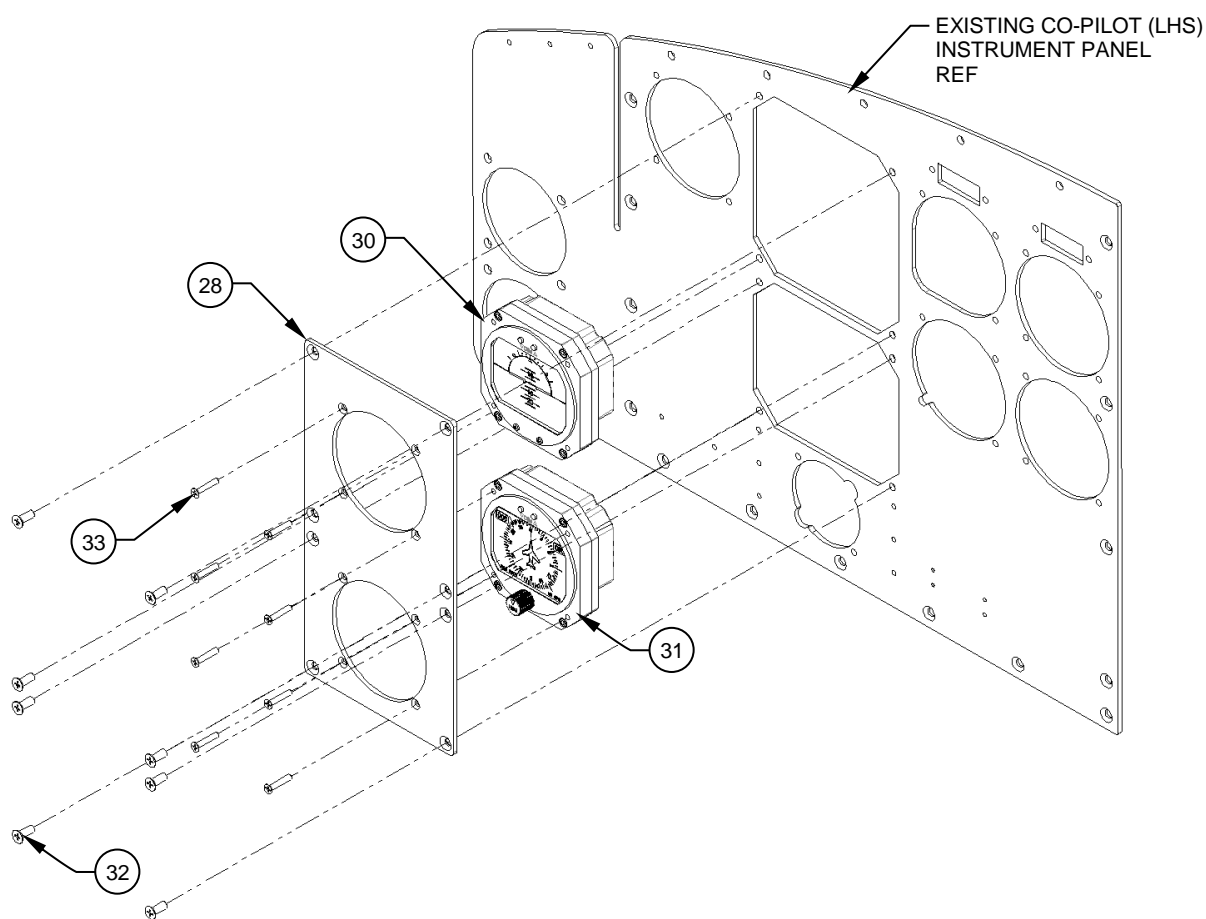
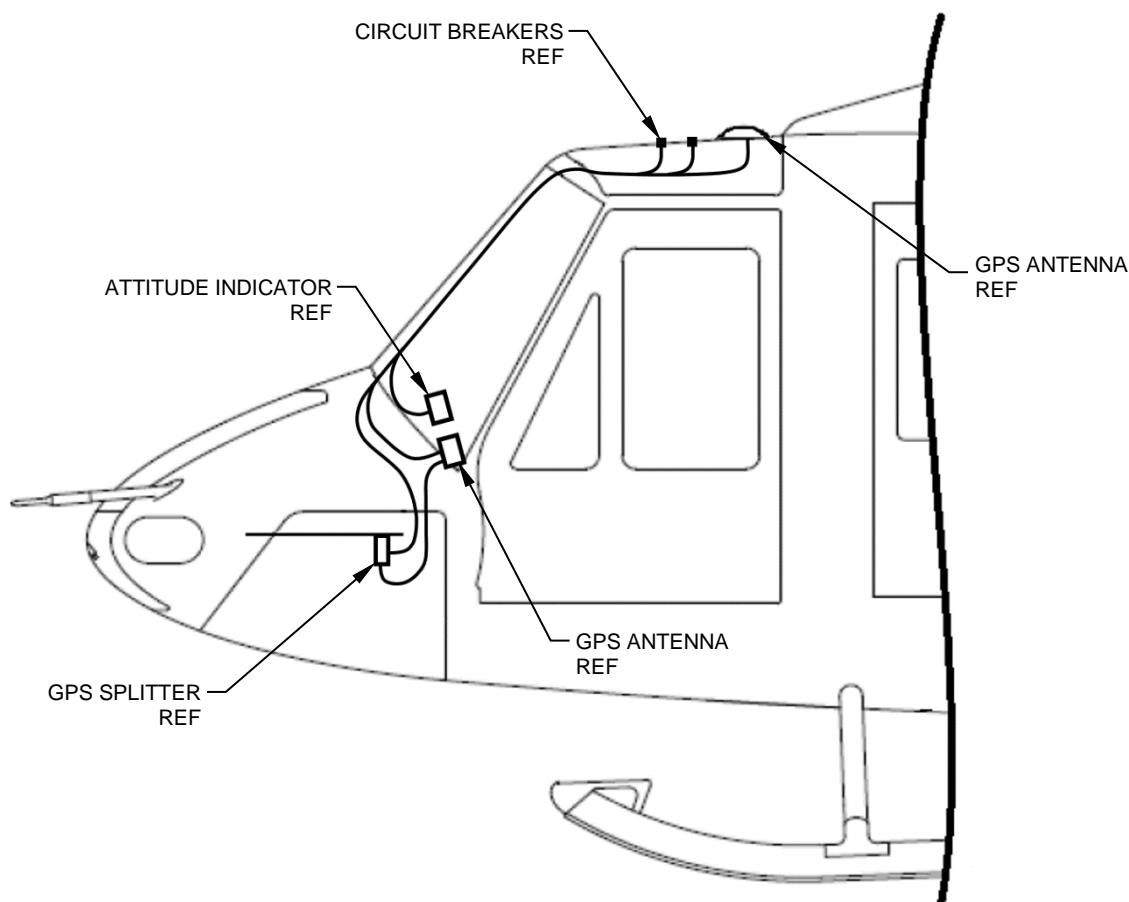

**Figure 5**
**Figure 8**
8. Install the Stud, Adhesive Mounted (Item 23) in the locations shown. Reference Figure 5. Installation of the studs shall be performed as per the instructions detailed in Appendix A. The position shown is the preferred location however, deviation is permitted to accommodate individual aircraft configurations. Recalculate weight and balance accordingly.
9. Install the Splitter, Assy (Item 3) with the supplied fasteners as shown. Reference Figure 5.
13. Install the Coax Cable, Assy (Item 48) by fastening the Coax Cable, Assy to the back of the pilot (RHS) Heading indicator (Item 31) and route the cable as shown. Reference Figures 8, 9 & 10 and Appendix B. Fasten the opposite end of the coax cable to the “OUT 2” port of Splitter (Item 5) Reference Figure 5. If not installing on the LHS as well, connect the coax cable to the “OUT 1” port.
14. Install the Coax Cable, Assy (Item 37) by fastening the Coax Cable, Assy to the back of the co-pilot (LHS) Heading Indicator (Item 31) and route the cable as shown. Reference Figures 8, 9 & 11 and Appendix B. Fasten the opposite end of the coax cable to the “OUT 1” port of the Splitter (Item 5) Reference Figure 5.
17. Install the Wiring Harness, Assy (Item 47) by fastening the connector to the back of the pilot Heading Indicator (Item 31) and route the wires as shown. Reference Figures 8, 9 & 10. Cut the un-terminated end of the wires to length and terminate with the provided ring terminals (Items 49 & 50) as per the wiring diagram. Reference Appendix B. Connect the newly terminated end to the Circuit Breakers (Items 52 & 53) as per the wiring diagram and connect ground wires to existing ground stud or ground block if available. If new ground studs or ground blocks are required, install IAW BHT-ELECT-SPM, Chapter 8. Reference Appendix B.
18. Install the Wiring Harness, Assy (Item 35) by fastening the connector to the back of the co-pilot Heading Indicator (Item 31) and route the wires as shown. Reference Figures 8, 9 & 11. Cut the un-terminated end of the wires to length and terminate with the provided ring terminals (Items 38 & 39) as per the wiring diagram. Reference Appendix B. Connect the newly terminated end to the Circuit Breakers (Items 41 & 42) as per the wiring diagram and connect ground wires to existing ground stud or ground block if available. If new ground studs or ground blocks are required, install IAW BHT-ELECT-SPM, Chapter 8. Reference Appendix B.
19. Install the Wiring Harness, Assy (Item 46) by fastening the connector to the back of the pilot Attitude Indicator (Item 30) and route the wires as shown. Reference Figures 8, 9 & 10. Cut the un-terminated end of the wires to length and terminate with the provided ring terminals (Items 49 & 50) as per the wiring diagram and connect ground wires to existing ground stud or ground block if available. If new ground studs or ground blocks are required, install IAW BHT-ELECT-SPM, Chapter 8. Reference Appendix B. Connect the newly terminated end to the Circuit Breakers (Items 52 & 53) as per the wiring diagram. Reference Appendix B.
20. Install the Wiring Harness, Assy (Item 36) by fastening the connector to the back of the co-pilot Attitude Indicator (Item 30) and route the wires as shown. Reference Figures 8, 9 & 11. Cut the un-terminated end of the wires to length and terminate with the provided ring terminals (Items 38 & 39) as per the wiring diagram and connect ground wires to existing ground stud or ground block if available. If new ground studs or ground blocks are required, install IAW BHT-ELECT-SPM, Chapter 8. Reference Appendix B. Connect the newly terminated end to the Circuit Breakers (Items 41 & 42) as per the wiring diagram. Reference Appendix B.
1. Determine installation location for the Stud, Adhesive Mounted (Item 23) per step 8 and Figure 5 of the Installation Instructions.